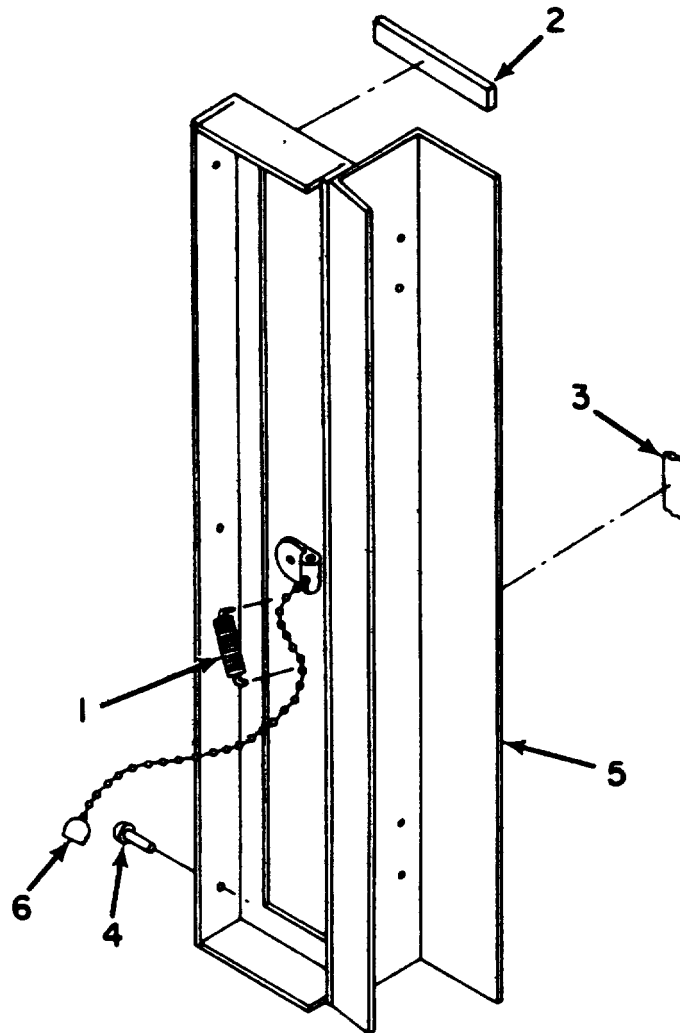

Figure 4-13. Damper Assembly.
a. INSPECTION. See Figure 4-13. Inspect damper for poor air sealing or malfunction. Repair only if operation of damper is impaired. Wipe off all loose or caked dirt with a dry cloth.